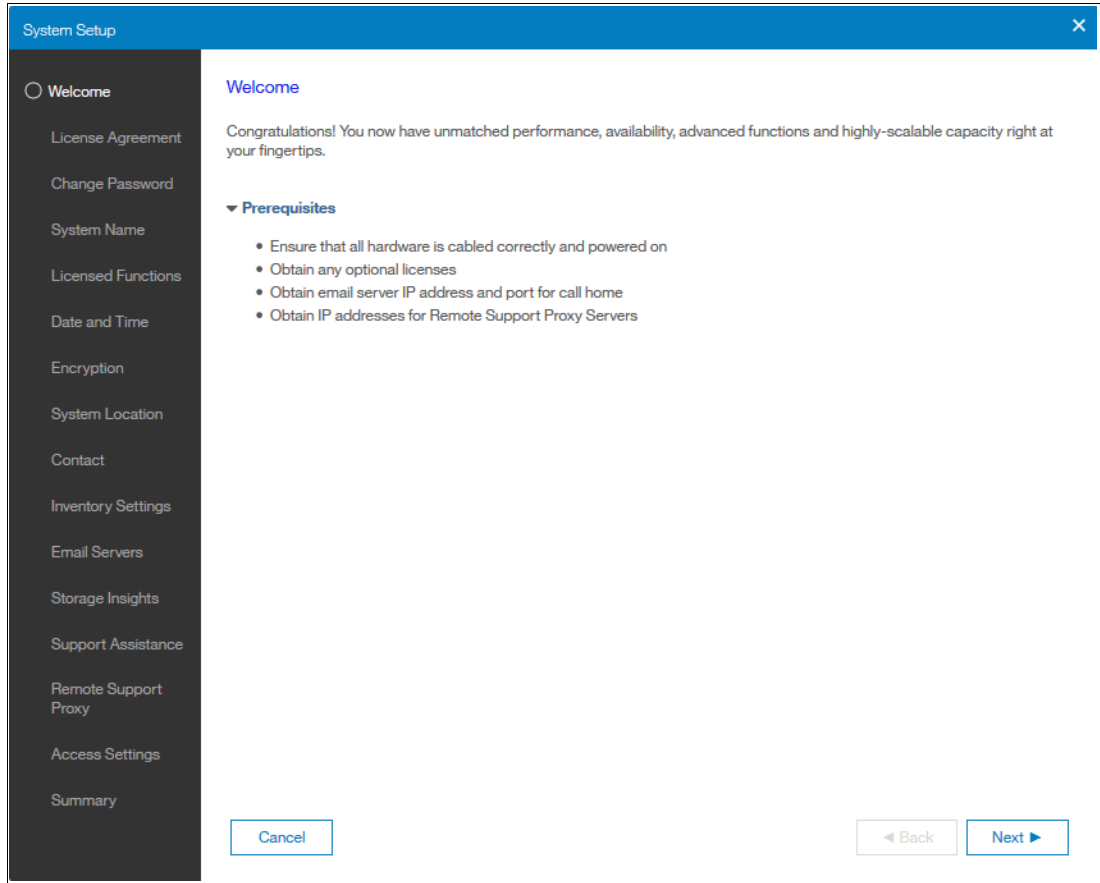

Figure 2-23 Setup wizard: Welcome
3. Verify the prerequisites in the Welcome window, as shown in Figure 2-23. Click **Next**.